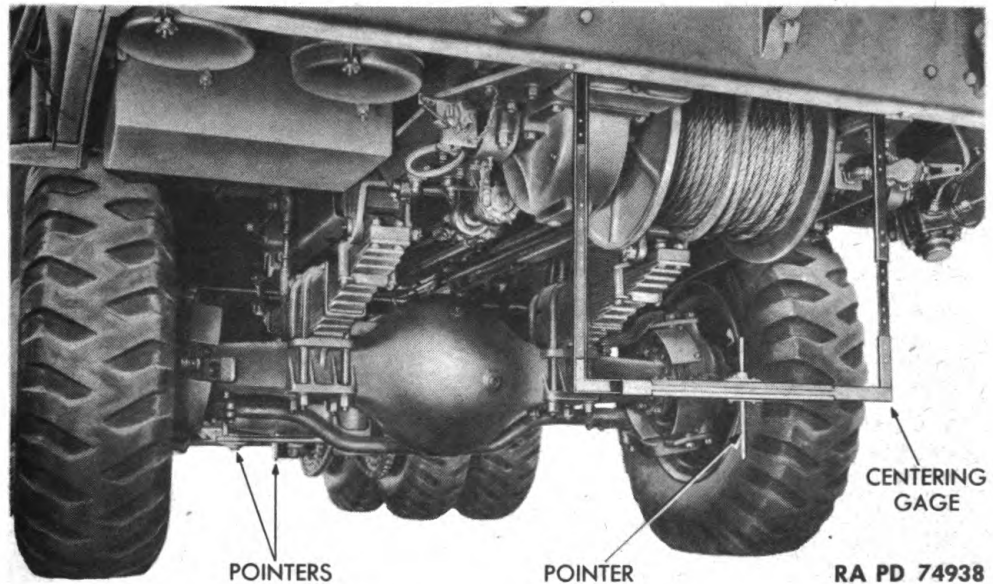

Figure 85 — Centering Gages on Frame
a. **Preliminary Instructions** (fig. 85). The frame must be checked for alinement before removal from vehicle. Checking of alinement is done by means of centering gages.